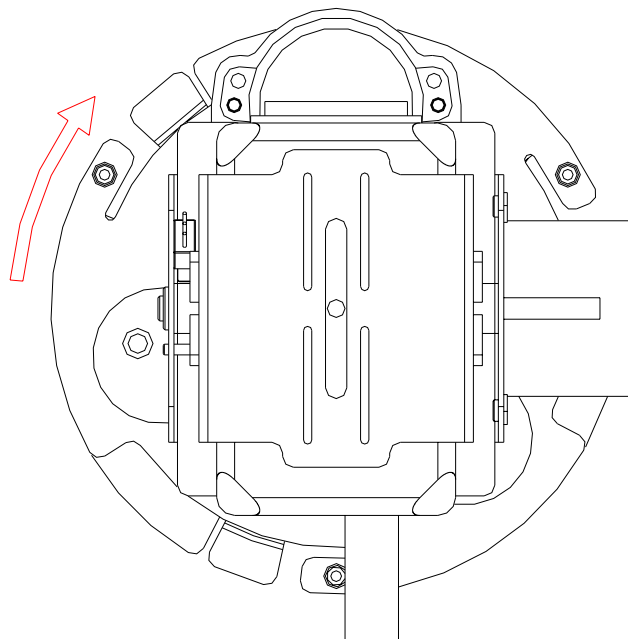

Fig 4.4-2
Step 2. Hold the camera, and then turn it to the arrow sign for about 20 degrees till it stops moving, making sure the installing pegs are in right positions. (Refer to **Fig 4.4-2**)